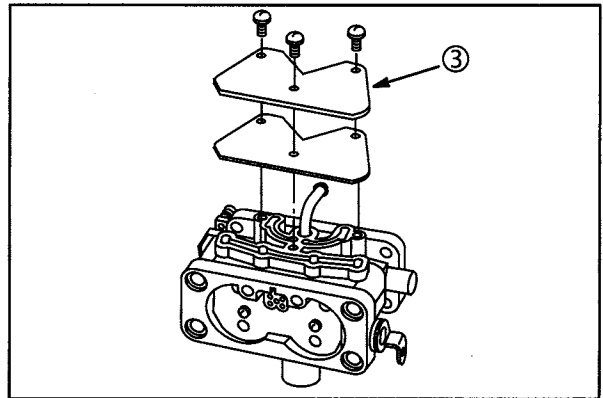

Fig. 124
- Install cover plate (3) with new gasket, **Fig. 124**.